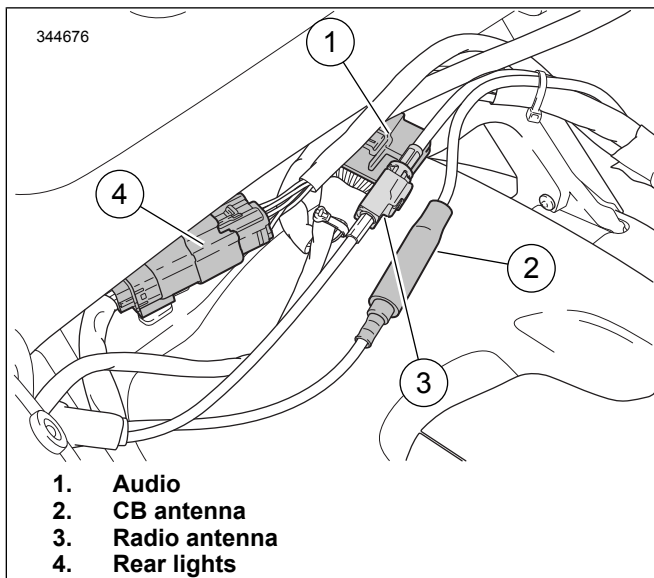

Figure 2. Tour-Pak Connectors
- a. See Figure 2. Separate electrical connectors.